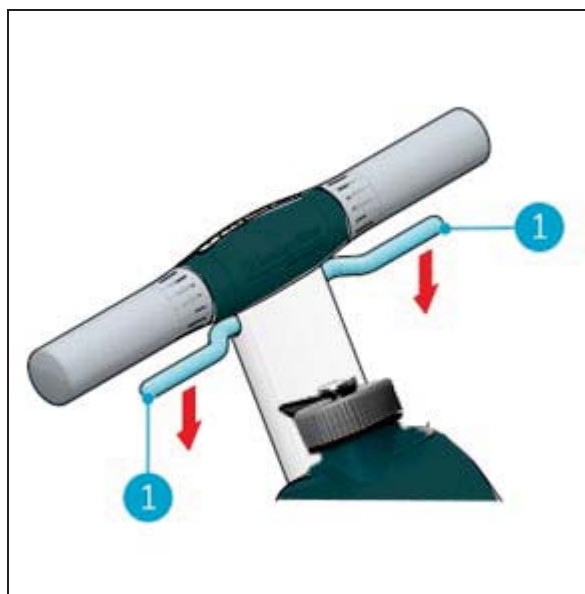

Figure 20
Releasing the trigger (Figure 20, pos 1) will automatically stop the i-mop® Lite.